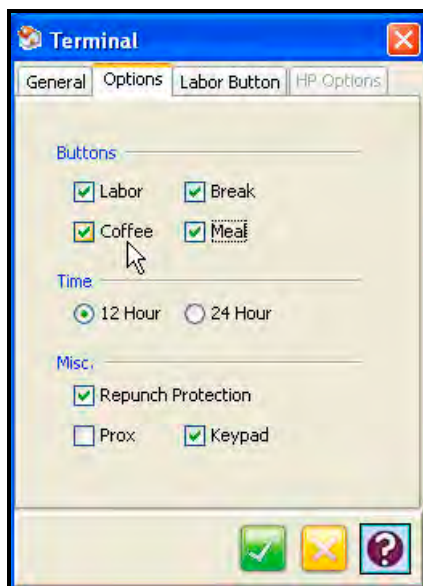

Figure 48: Software Terminal Options Setup
- Step 18.** Click on the Options tab (see **Figure 48**). To activate the Labor button on a MTX-15 terminal, place a check in the Labor box.